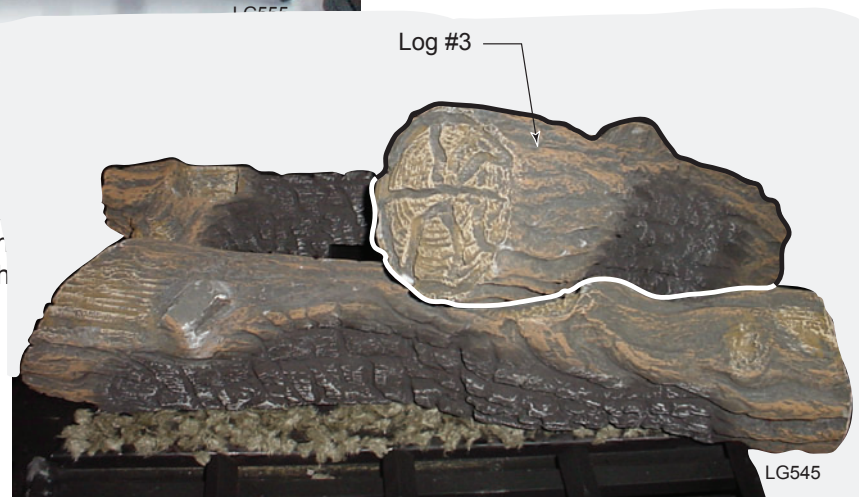

Figure 23
4. Place log #3 at an angle over log #2 toward the back by matching the rectangular notch on the bottom of this log with the rectangular protrusion on log #2. Set the notch located on the bottom of this log toward the back over the metal bracket located to the right side of the burner. *Figure 23*